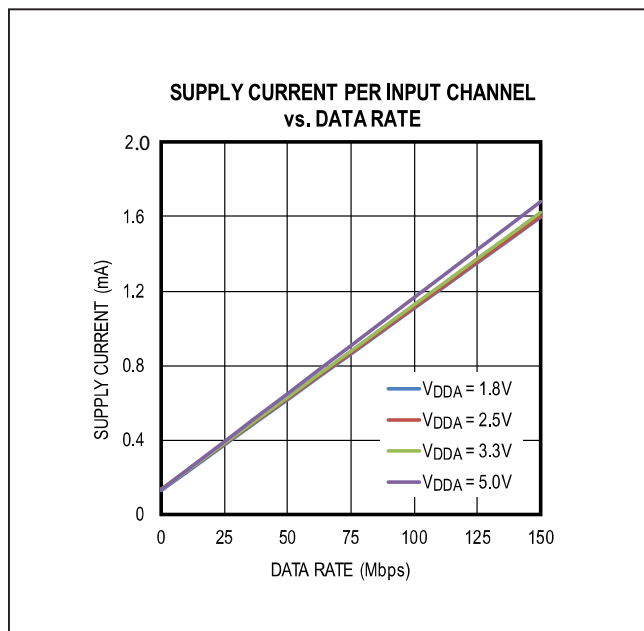
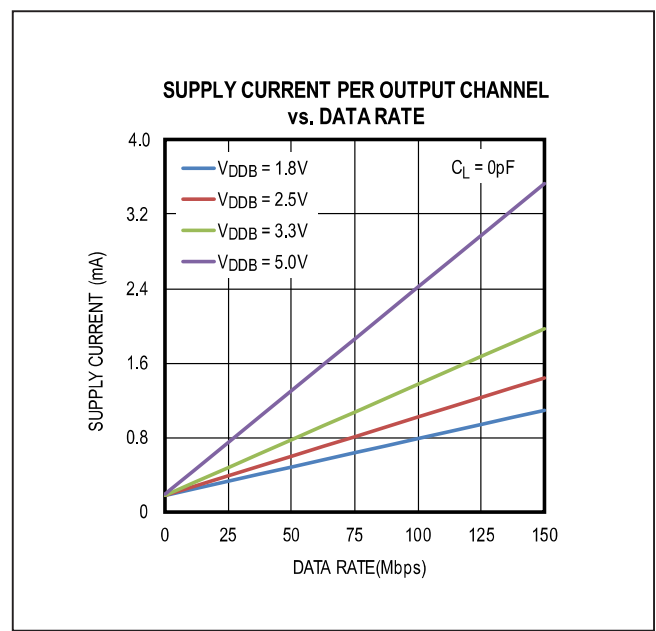

Figure 6. Supply Current Per Input Channel (Estimated)
Figure 7. Supply Current Per Output Channel (Estimated)
The required current for a given supply (V_{DDA} or V_{DDB}) can be estimated by summing the current required for each channel. The supply current for a channel depends on whether the channel is an input or an output, the channel's data rate, and the capacitive or resistive load if it is an output. The typical current for an input or output at any data rate can be estimated from the graphs in Figure 6 and Figure 7. Please note the data in Figure 6 and Figure 7 are extrapolated from the supply current measurements in a typical operating condition.
The total current for a single channel is the sum of the “no load” current (shown in Figure 6 and Figure 7) which is a function of Voltage and Data Rate, and the “load current,” which depends on the type of load. Current into a capacitive load is a function of the load capacitance, the switching frequency, and the supply voltage.
- Channel 1 is an input channel operating at 2.5V and 20Mbps, consuming 0.33mA, estimated from Figure 6.
- Channel 2 and 3 are input channels operating at 2.5V with DC signal, consuming 0.13mA, estimated from Figure 6.
- Channel 4 is an output channel operating at 2.5V and 100Mbps, consuming 1.02mA, estimated from Figure 7.
- Channel 1 is an output channel operating at 3.3V and 20Mbps, consuming 0.42mA, estimated from Figure 7.
- Channel 2 and 3 are output channels operating at 3.3V with DC signal, consuming 0.18mA, estimated from Figure 7.
- Channel 4 is an input channel operating at 3.3V and 100Mbps, consuming 1.13mA, estimated from Figure 6.